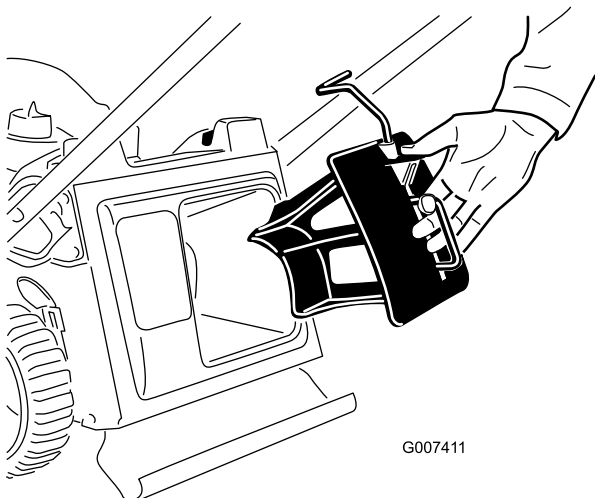

Figure 8
1. Insert the mulch plug into the machine if it isn't already installed (Figure 8).